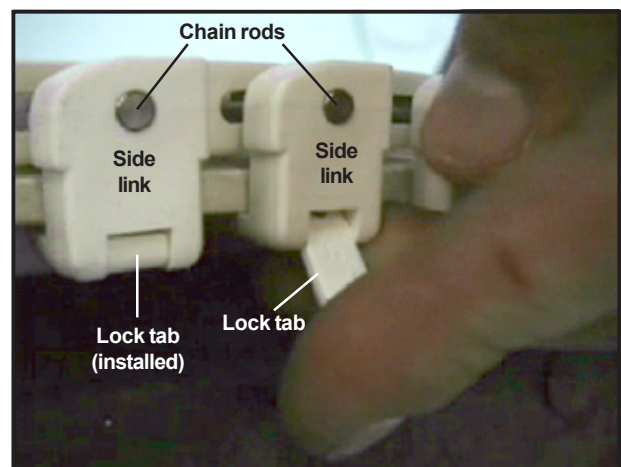

Figure 32: Insert lock tab
- Once the rod is in place, insert the lock tabs into the side links (Figure 32). The lock tabs must snap up into the chain link. The lock tabs will slide easily into the cavity of the chain if they are inserted at a slight angle.